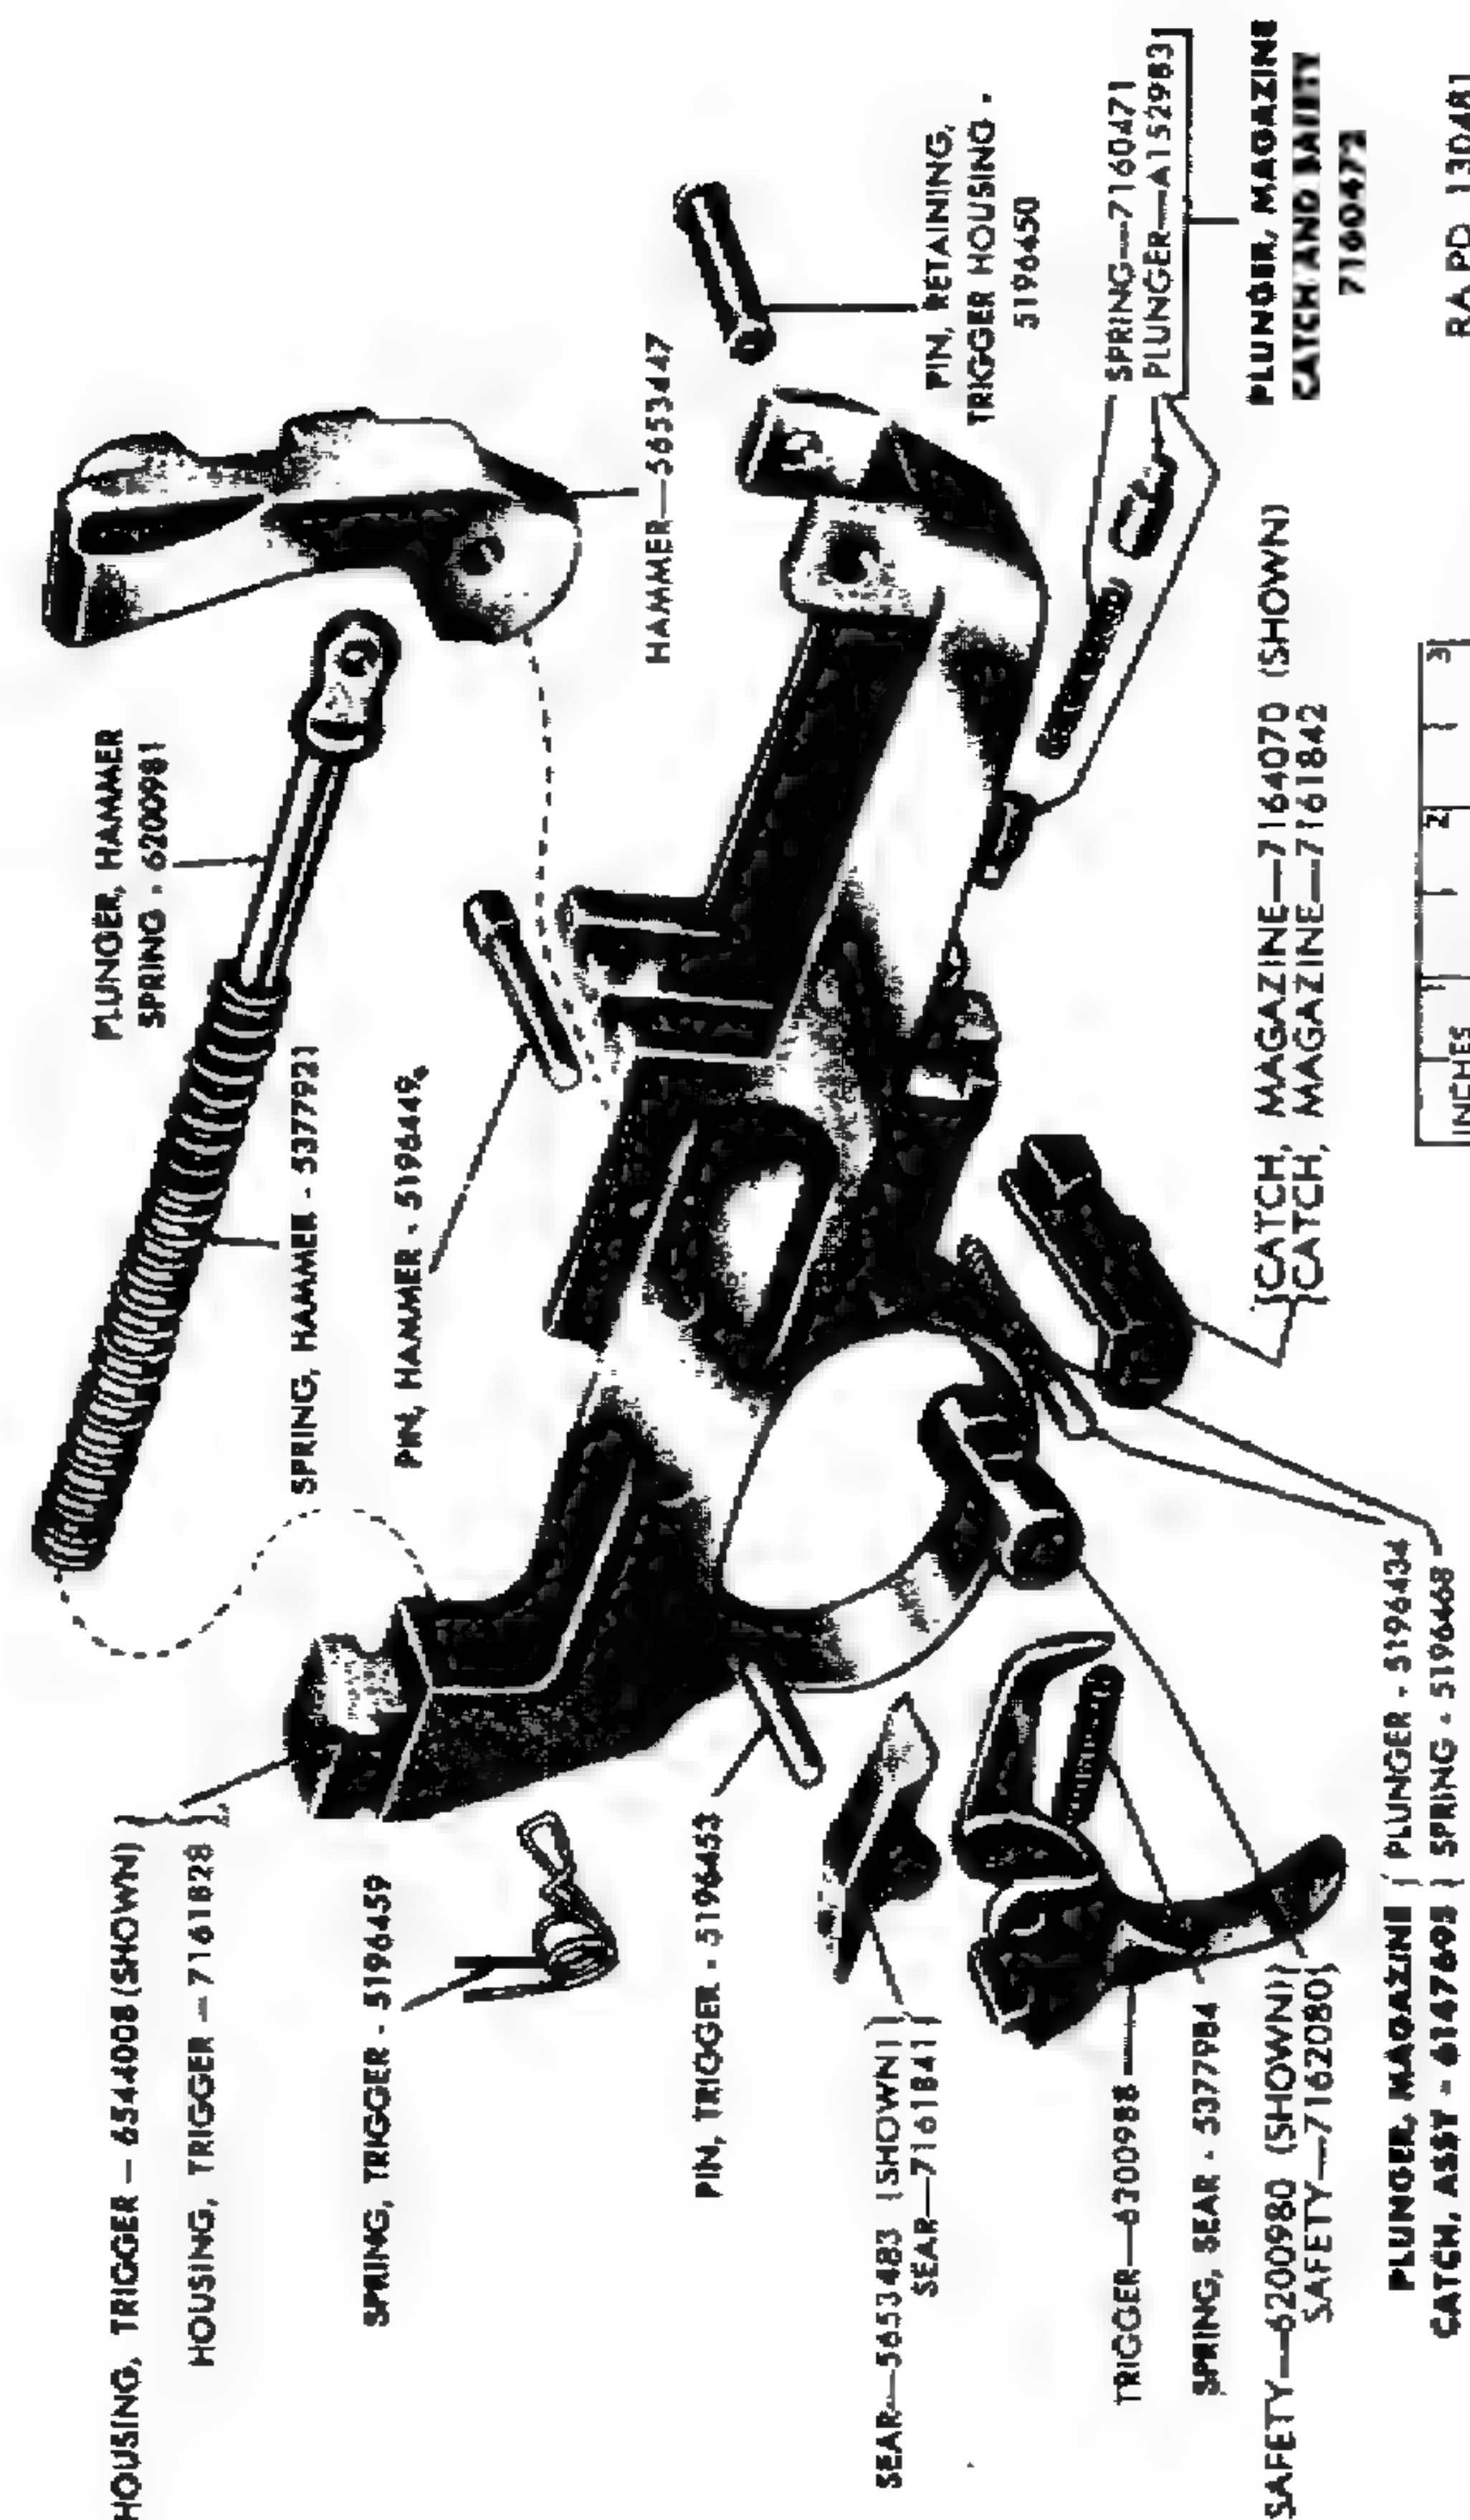
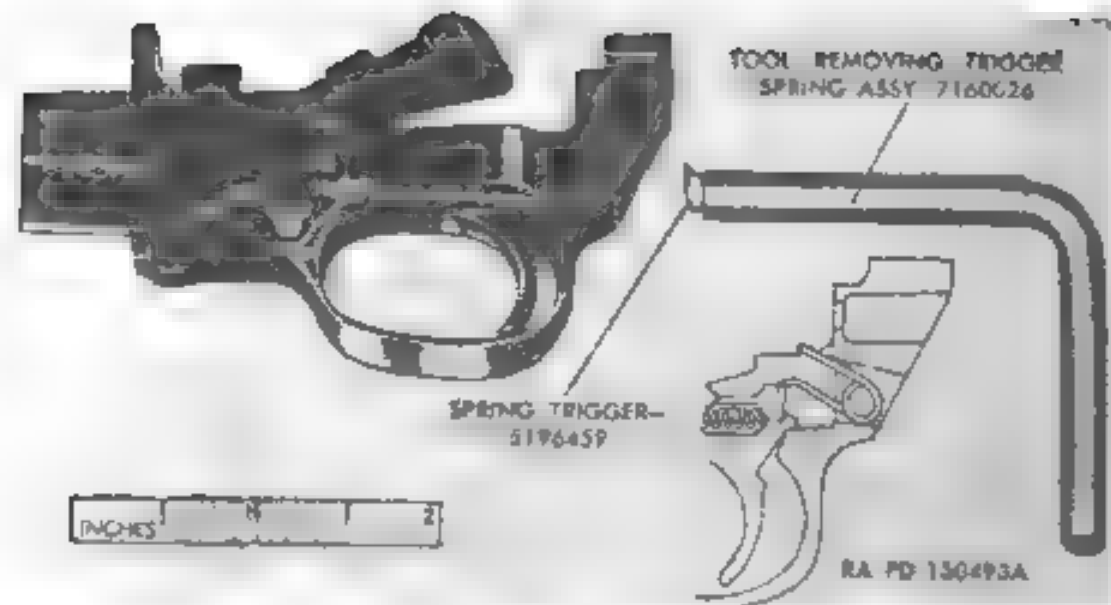

Figure 45. Trigger housing assembly for carbines M1 and M1A1—exploded view.
Figure 46. Trigger spring removal and installation.
b. To facilitate the removal and installation of the trigger spring (fig. 45), tool 7160026 (fig. 6) has been devised, to be used as follows:
- (1) Remove the stock from the carbine.
- (2) Insert the tube portion of the trigger spring removing tool (fig. 46) in the recess in the rear of the trigger housing containing the trigger spring; compress and retain the trigger spring within the tube of the tool.
- (3) Turn the handle of the tool one-quarter turn counterclockwise.
- (4) Withdraw the tool and spring while pushing the handle of the tool slightly to the right.
b. *Trigger Housing* (figs. 45 and 47). Inspect housing for deformation, worn (elongated) or burred pinholes, worn or burred retaining lugs, bent trigger guard bow, foreign matter in recesses, burred magazine catch guideway, and rust. Some of the fabricated (braced) type of housings were cyanide hardened during manufacture and some were not. The pinholes of the earlier ones, which were not hardened, are more subject to wear. Inspect the trigger housing group for looseness, and operation. The group should assemble easily to the receiver without apparent looseness or side play. Forward or rearward movement due to clearance at retaining pin should not exceed approximately 0.006 inch by hand test.
c. *Trigger Housing Retaining Pin* (fig. 45). Old type of trigger housing retaining pin (with springs) must be discarded and replaced with new type of retaining pin (fig. 48). (New type pins have no spring.) Inspect retaining pin for wear, burrs, and rust.
d. *Hammer* (fig. 45).
- (1) *Depot maintenance.* Inspect the hammer on a comparator where facilities are available (par. 79). This applies to hammers removed from used carbines; in general, new hammers removed from stores do not require comparator inspection.
e *Hammer Spring and Plunger* (fig. 45) Inspect hammer spring plunger for deformation, wear, burrs, and rust. Inspect fit of head of plunger in slot in rear face of hammer. Head should seat evenly and positively in slot. Inspect hammer spring for functioning, deformation, and set.
f. *Trigger* (figs. 45 and 51).
- (1) Inspect the trigger on a comparator (depot maintenance) where facilities are available (par. 77). This applies to triggers removed from used carbines; in general, new triggers removed from stores do not require comparator inspection.
- (2) Where comparators are not available, inspect trigger for movement on trigger pin and pin for seating in trigger housing. Trigger should rotate freely on pin but have no shake. Pin should fit snugly in housing with a push fit. Inspect clearance of trigger tip with guard, and rear of trigger with housing when fully retracted.
- (3) Inspect top of pedestal where sear seats when hammer is cocked, for levelness, wear, and burrs, and check to assure that the top forward corner of the pedestal is not rounded or broken. This corner should be reasonably sharp. Triggers that are rejected for high pedestal (as determined by comparator test—DEPOT MAINTENANCE ONLY) will be retained in the shop until a sizable quantity has accumulated, whereupon disposition instructions should be requested from Chief of Ordnance, Washington 25, D. C., ATTENTION: ORDFM. Check trigger spring notch for burrs and foreign matter. Check forward end of trigger which engages with safety for deformation and burrs. Check sear spring seating recess for foreign matter.
- (4) Test functioning of trigger to determine that trigger returns smoothly to its forward position with no tendency to stick or hang (table IV, par. 17).
g Trigger Spring (fig. 45) Check trigger spring for deformation and rust. Check seating of spring in seating notch in trigger and positive retention spring in housing aperture. Bow end of spring should seat level in bottom of seating notch in trigger, and rear coiled section should be held firmly in housing aperture by the force of spring tension. Tips of spring should be slightly spread. Trigger spring should return trigger to forward position under adequate tension (**FIELD MAINTENANCE**).
i. *Sear Spring* (fig. 45). Check sear spring for positive seating in trigger and sear, and for functioning, rust, and set. Visually inspect during repair. Replace during rebuild.
j. *Safety* (figs. 45 and 53). Check to assure that only the rotary type safety 7162080 is used. Modification Work Order ORD B28-W-6 prescribes the replacement of the old type safety with the new type (fig. 53). Test safety for positive positioning. Check for burrs and rust and check spring plunger recess and trigger slot for burrs and foreign matter. Refer to paragraph l(1) and (2) below for inspection of plunger assembly for magazine catch and safety.
k. *Magazine Catch* (figs. 45 and 54).
l. *Plunger Assembly for Magazine Catch and Safety* (figs. 45 and 55).
b. Using trigger spring removing tool 7160026 (fig. 46) replace the trigger spring by reversing the procedure of removal (par 28b). When the spring is in position in the retaining groove of the trigger, depress the trigger and withdraw the tool from the housing. Install the stock on the carbine.